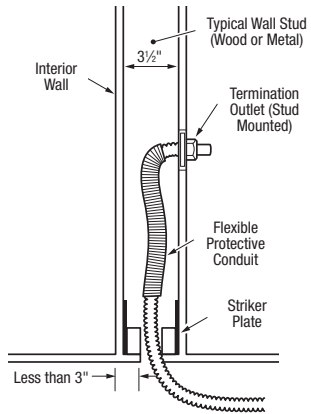

Figure 4.11 Use of Flexible Protective Conduit
3. At termination points using the HOME-FLEX® termination flange, HOME-FLEX® Flexible Protective Conduit should be installed to protect the CSST in the area between the striker plates and the outlet. (Figure 4.11)